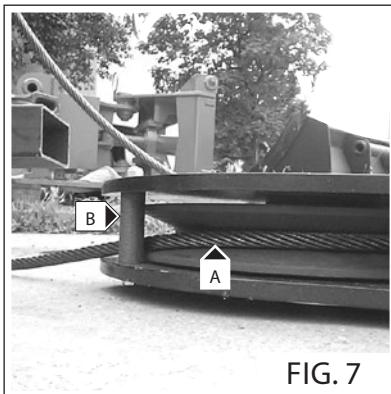

FIG. 7
- Inserire la fune nel bozzello (Fig. 7/8 - Rif. A) (la fune deve passare fra la puleggia ed i due perni (Fig. 7/8 - Rif. B).
- Insert the rope in the block (Fig. 7/8 - Ref. A) (the rope must pass through the pulley and the two pins (Fig. 7/8 - Ref. B).
- Sæt wiren i taljeblokken (Fig. 7/8 - ref. A) (wiren skal passere mellem remskiven og de to stifter (Fig. 7/8 - ref. B).